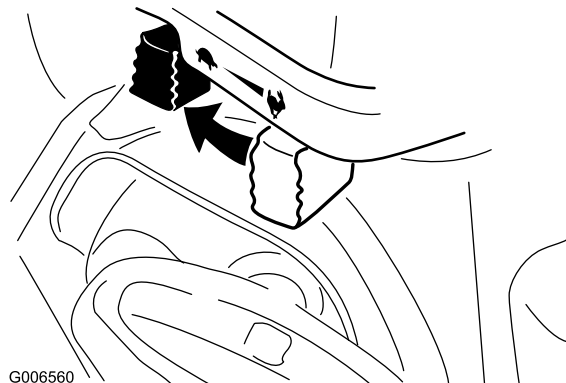

Figure 26
1. Move the throttle to the Slow position, and then to the Stop position (Figure 26).